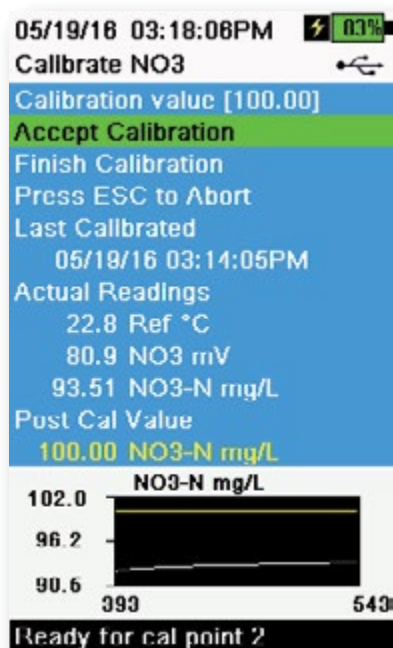

Figure 61 Calibrate ISE
8. Observe the actual measurement readings for stability, and then select **Accept Calibration** (Figure 61). "Ready for cal point 3" will be displayed in the message area.